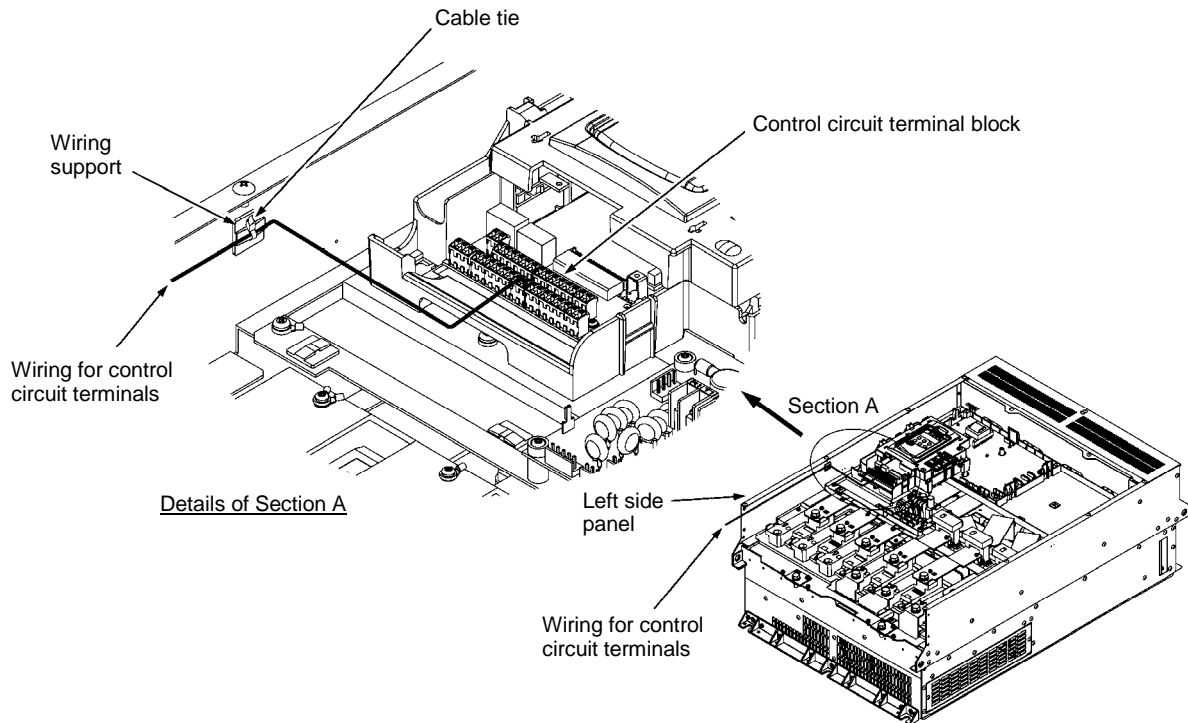

Figure 2.10 Wiring Route and Fixing Position for the Control Circuit Wires
- (1) As shown in Figure 2.10, route the control circuit wires along the left side panel to the outside of the inverter.
- (2) Secure those wires to the wiring support, using a cable tie (e.g., Insulok) with 0.15 inch (3.8 mm) or less in width and 0.059 inch (1.5 mm) or less in thickness.